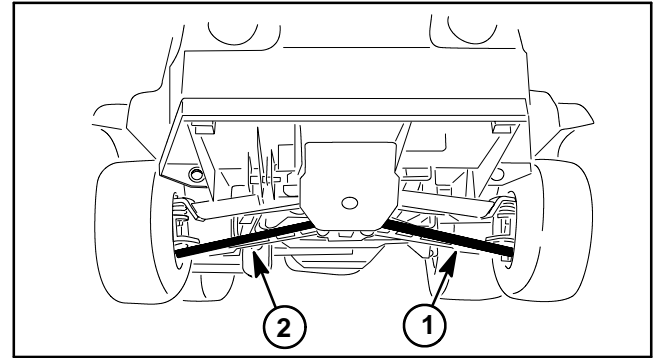

Figure 1
1. Drive machine straight ahead at least fifteen (15) feet and stop on a level surface. Stop engine and remove key from ignition switch.
2. Check attitude of both right and left A-arms (Fig. 1). Both A-arms should be level and parallel to the ground.